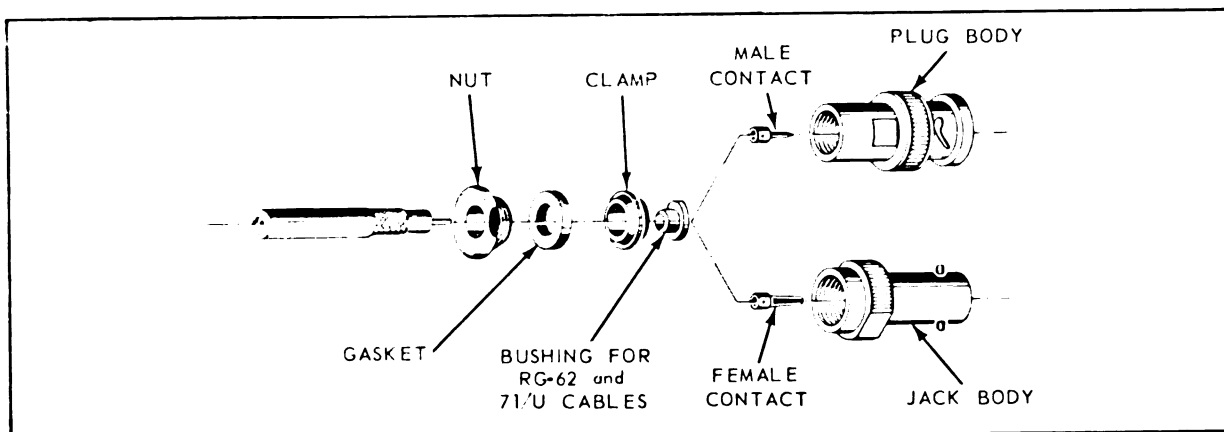

Figure 4-15. Improved BNC Connectors – Exploded View
a. Improved Version (see figure 4-15) - consists of a plug or jack body assembled to coaxial cable with nut, grooved gasket and sleeve clamp. An insulation bushing is added when assembly is to RG-62/U or 71/U cables. Plug UG-88E/U and Jack UG-89C/U are typical of this version. The sleeve clamp has a sharp rear face which cuts into the grooved gasket and thus makes a tight seal.
d. Disassemble nut, grooved gasket and sleeve clamp from plug or jack body. See figure 4-15.